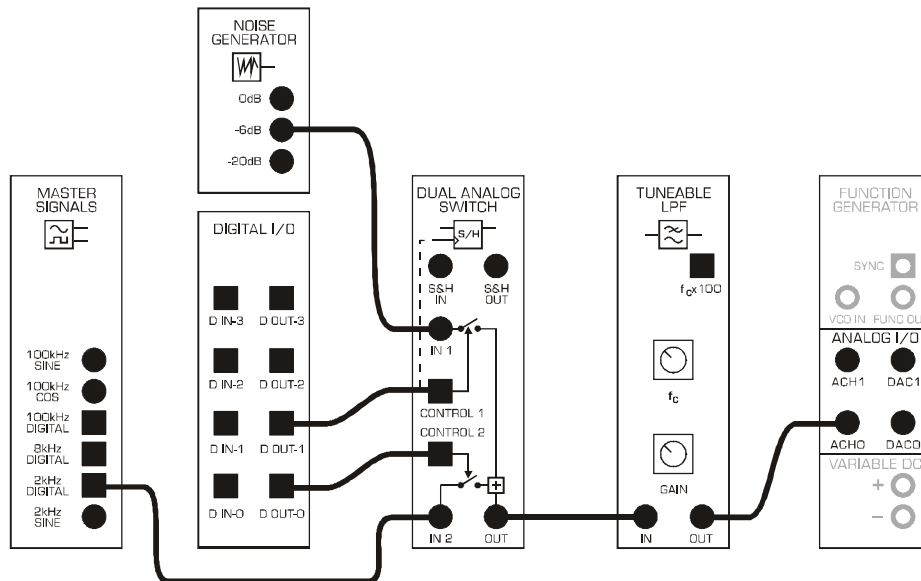

Figure 36: "switched FFT.vi" wiring diagram
1. Use patching cords to wire up DATEx blocks according to the wiring diagram in Figure 36.